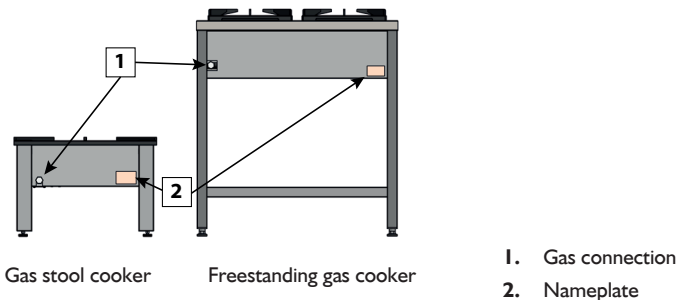

Figure 15. Rear view to the unit.
- Natural-gas stoves (2E; 2H; 2LW; 2L) should be connected to the gas system inside the building as fixed connection or with flexible metal hoses bearing the valid safety mark. The stove has a gas connection with an R 1/2” thread (Fig. 15 item 1).
Example: Convert the stove adapted to combustion of LPG into combustion of natural gas. After the conversion, the sticker **G20 2E (20mbar)** packaged with the nozzles should be put on the name plate (Fig.15 item I, Fig.17)